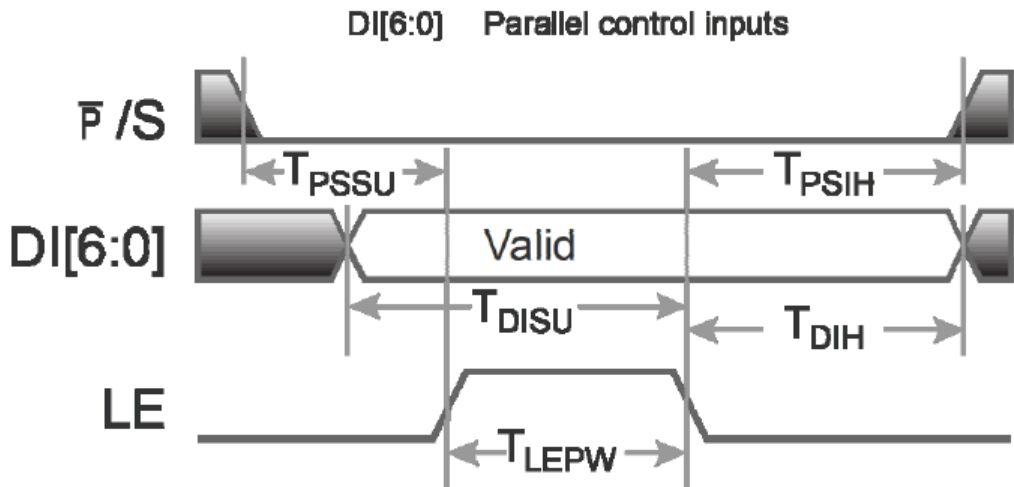

Figure 3. Latched-parallel/direct-parallel timing diagram
The parallel interface timing requirements are defined by Figure 3, Table 12, and the switching times in Table 3–Table 5.
For latched-parallel programming, the latch enable (LE) must be held LOW while changing the attenuation state control values, then pulse LE HIGH to LOW (per Figure 3) to latch new attenuation state into device.